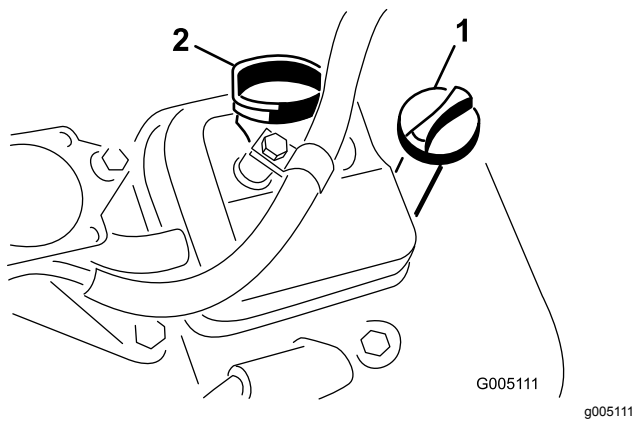

Figure 27
3. Screw the dipstick into the tube and ensure that it is seated fully (Figure 27).